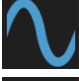

Figure 3.12: Channel(s) configuration window, Digital I/O input
To generate a new **Channel** using the **Channel(s) configuration** window (Fig. 3.12):
1. Select one of the available **Channel Type** icons from the left most column of the **Channel(s) Configuration** window (Fig. 3.12). Table 3.1 describes the use case of each type.
3. Select the **Add** button (Fig. 3.12) to generate the defined channel or to update an already configured channel, but does not automatically close the *Channel Configuration* window. This allows the user to conveniently set up all required channels one after the other.